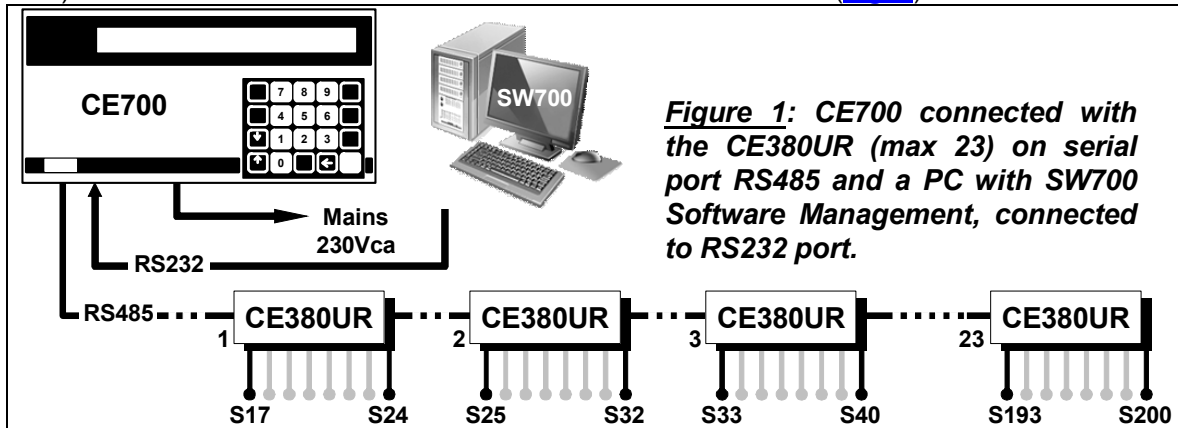

Figure 1: CE700 connected with the CE380UR (max 23) on serial port RS485 and a PC with SW700 Software Management, connected to RS232 port.
The RS485 (COM2) Serial Port, normally be used to connect up to 23 Remote Units CE380UR (Fig. 1). Other explanations also page18, chapter **SETTING SERIAL PORTS**.
- 1) a local PC on which you install our Software Management SW700 (Fig. 1). This software can manage one or more central CE700. Record events, the values of the sensors, can export stored values, can send e-mail in case of alarms and act as the central remote control.